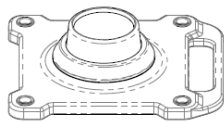
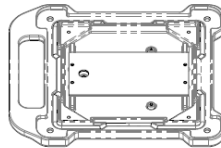

Figure 4-8
Figure 4-9
4. Assemble the upper cover of the shell and new prism to the original positions (Figure 4-8) and tighten three screws (Figure 4-9).